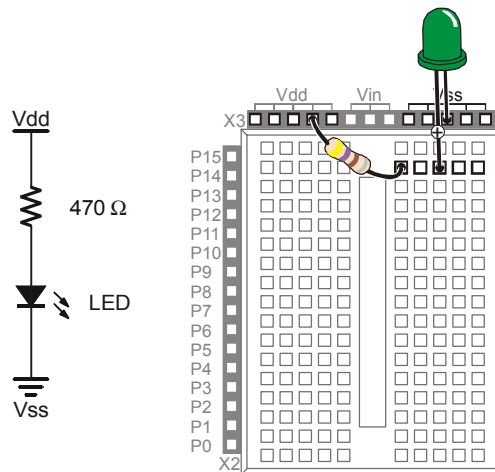

Figure 2-6
Figure 2-6 shows a circuit schematic, and a picture of how that circuit will look when it is built on the prototyping area. The breadboard is separated into rows of five sockets. Each row can connect up to five leads, or wires, to each other. For this circuit, the resistor and the LED are connected because each one has a lead plugged into the same 5-socket row. Note that one lead of the resistor is plugged into Vdd so the circuit can draw power. The other resistor lead connects to the LED's anode lead. The LED's cathode lead is connected to Vss, or ground, completing the circuit.
You are now ready to build the circuit shown in Figure 2-6 (below) by plugging the LED and resistor leads into sockets on the prototyping area. Follow these steps:
- ✓ Double check to make sure you built your circuit exactly as shown in Figure 2-6.